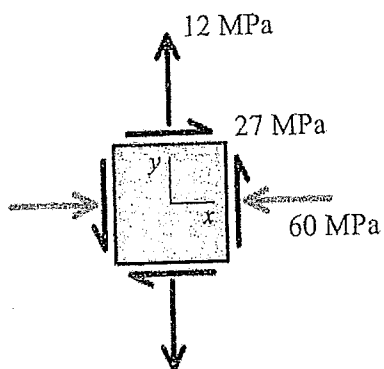

Figure 4
3. Consider a point in a structural member that is subjected to plane stress. Normal and shear stresses as acting on horizontal and vertical planes at the point are shown in Figure 4.